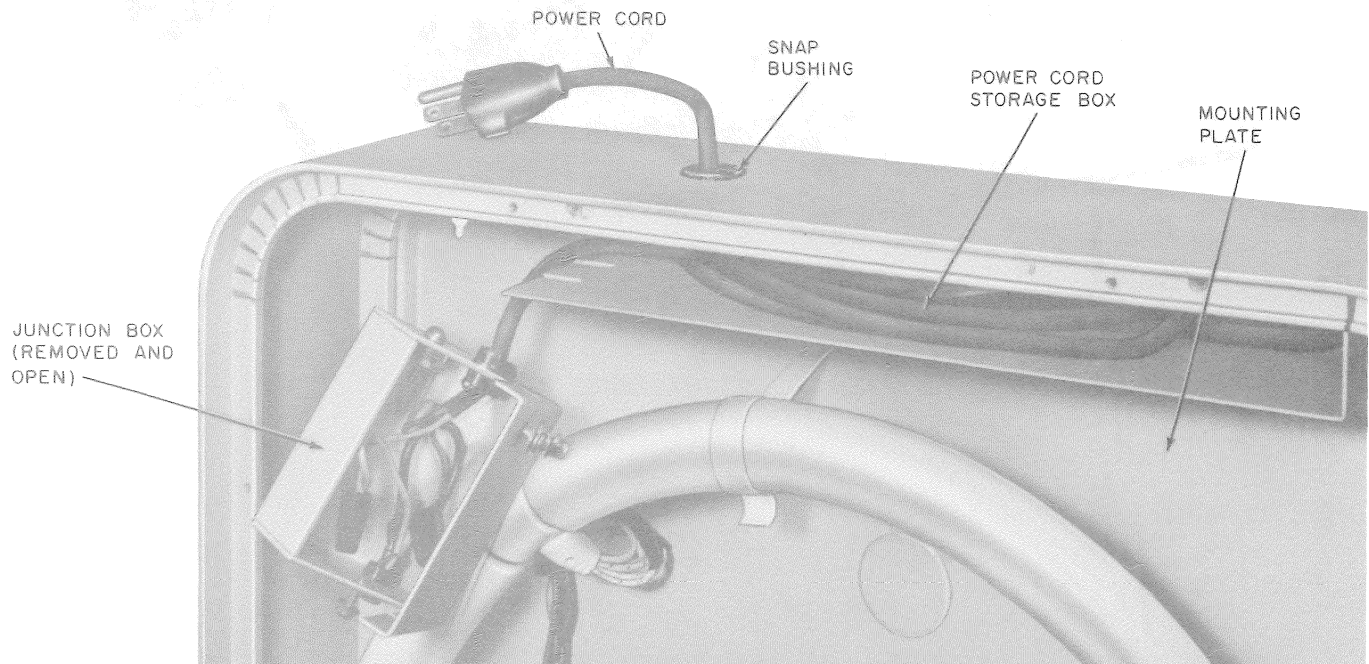

Fig. 26—KS-20135, List 4
5.12 A junction box and a box for storing up to six feet of cord is provided. The sign may be permanently mounted with conduit by removing the plug connecting power cord and snap bushing in the frame (Fig. 26).